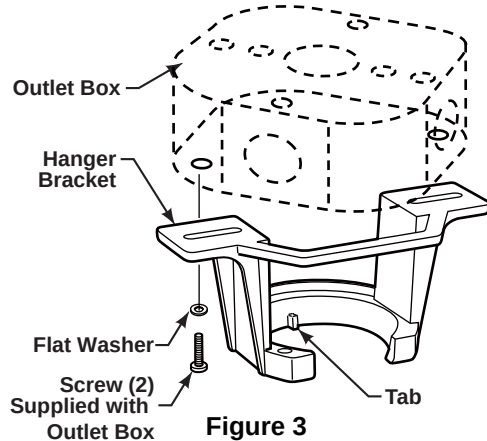

Figure 3
1. Securely attach the hanger bracket to the outlet box (not included) using the outlet box screws and washers supplied with the outlet box. (Figure 3)